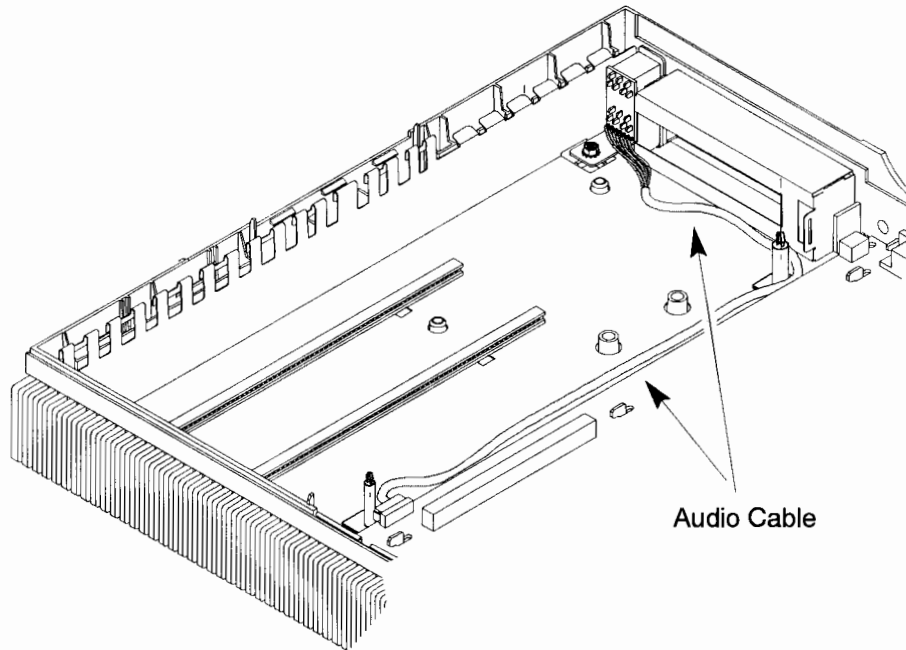

Figure B-51. Routing the Audio Cable
7. Check that the audio cable is routed as shown in Figure B-51, so it will not be pinched under the EISA board or the connector bucket.